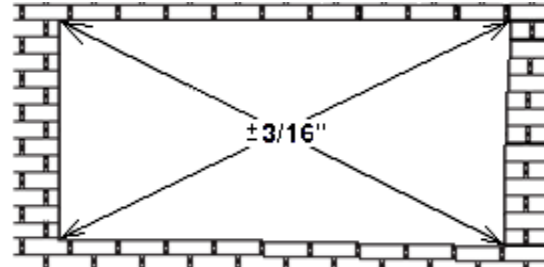

Figure 1
2. Check and confirm each opening is square, plumb, and level at all sides and corners. See Figures 1 and Figure 2 for maximum allowable